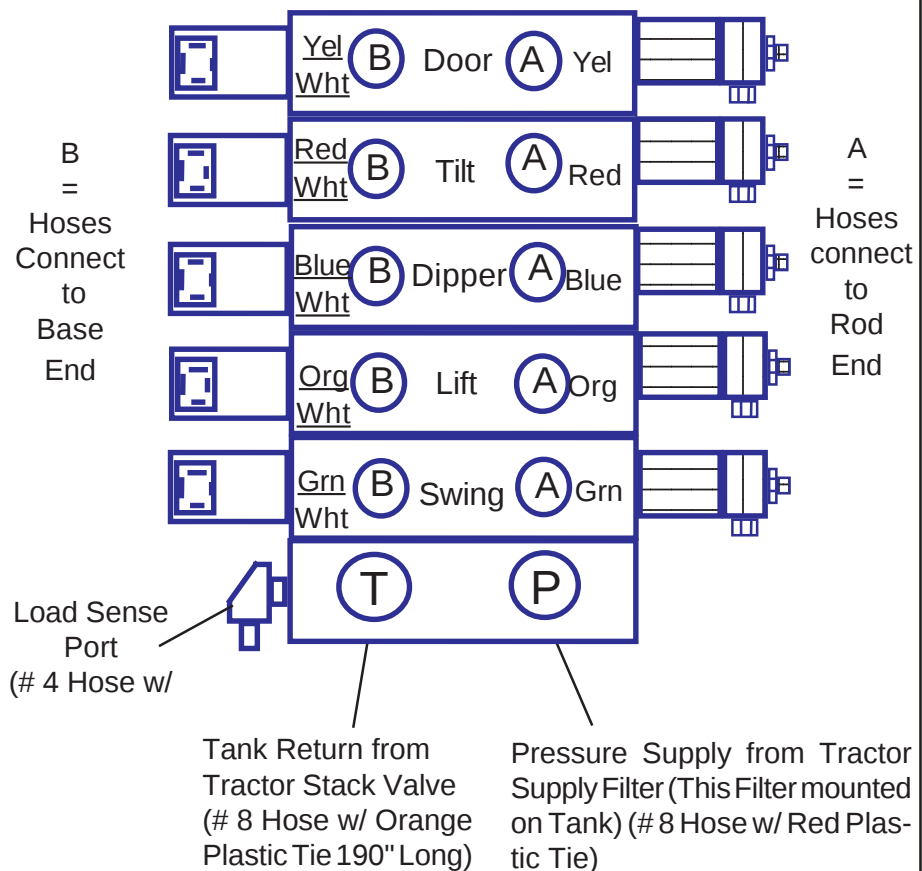

Figure 15
3. Connect Cylinder Hoses To Control Valve. These Hose connections from Cylinder to Valve will match the Color Plastic ties on hose and match them with the Color in the drawing below (See Figure 15). Hose must be run where they will not interfere with Boom Movement or be hooked on something during use. Start with the Swing Cylinder and Connect the Hoses as you go up, connect and tighten a Left hose (Hoses with solid color Plastic ties) to the Left side then the Hose with the plastic tie that has a white stripe next. Put both hoses on for one Cylinder before you go up to the next. If not it is very difficult to tighten the Hose because the other one will interfere. The Hoses will be connected to
4. This is a 5 Spool Load Sense Valve. Only the Load Sense Valve will have the Load Sense Port (See Figure 15). If the valve does not have this load sense Port it is most likely a Fixed Displacement valve and will not work for this application. This valve should be easy to spot if it is wrong as one of the first hoses that should have been connected to it was the Load Sense Hose that runs from the Stack valve at the rear of the tractor.